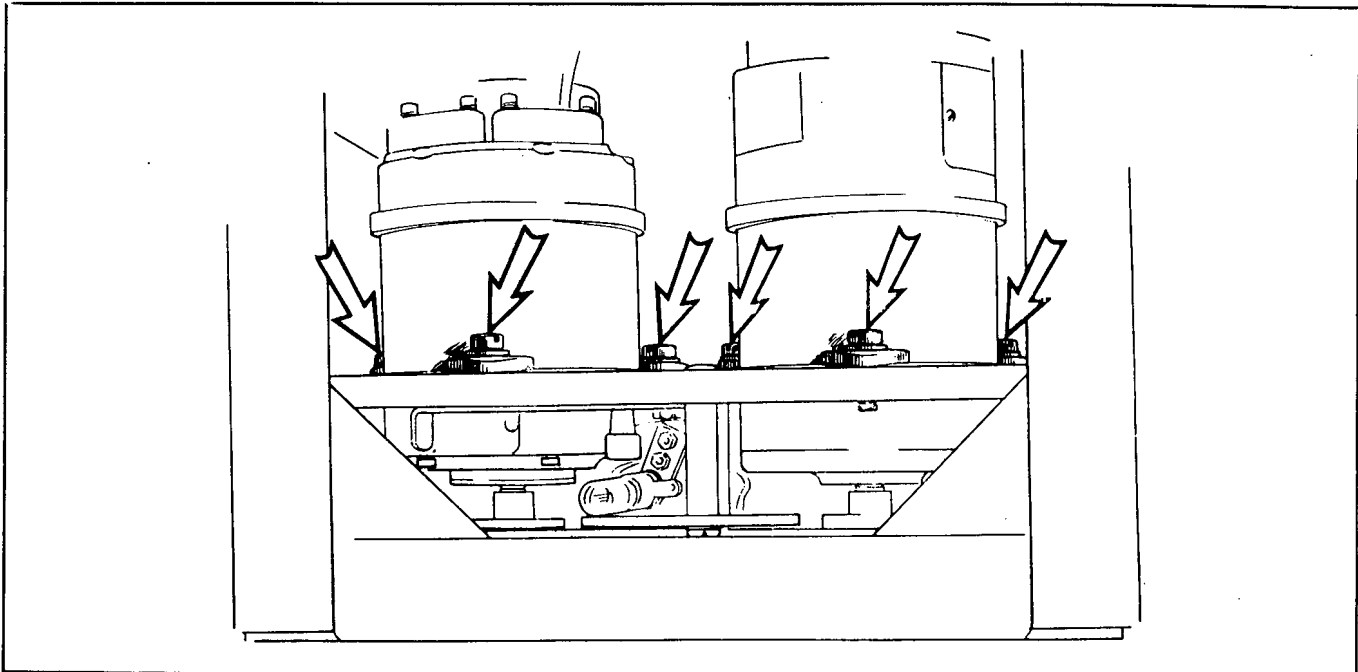

Figure 3-45. Mounting of Synchros in Bearing Indicator
(23) Clamp the stator of the synchro in the zero voltage position. Be certain that the voltage does not change as the clamp is tightened.
(24) Remove power from the unit and replace leads 57, 58, and 59 on their terminal strip.
(25) Replace the cover for the synchro access door in the Pedestal. Do not release the stowing lock.
(26) Apply power to the system by placing the power switch of the Rotation Control Unit in its ON position.
(27) Loosen the mounting screws holding each unit to the frame of the bearing indicator, as shown in Fig. 3-45.
(28) Rotate the stator of each unit until the zero position of the dial of the unit coincides with the index on the frame of the Bearing Indicator. Clamp the stators in this position.
(29) Release the stowing lock in the Antenna Pedestal and replace the disconnect plug in the Pedestal base.
(30) Place the SYNCHRO AMPLIFIER POWER switch on the terminal box of the Synchro Unit of the Synchro Amplifier in its ON position. As soon as the tubes of the Electronic Unit heat, the Synchro Amplifier will synchronize itself with the compass heading. If instead it settles at a point 180 degrees off, the trouble will be found in the reversal of connections in the ship's wiring and not in the unit itself, as the units are tested and operated under standard conditions at the time of Navy inspection at the factory. Once the Synchro Amplifier has been put into satisfactory operation its performance will be automatic. No attention during operation will be required. No adjustment